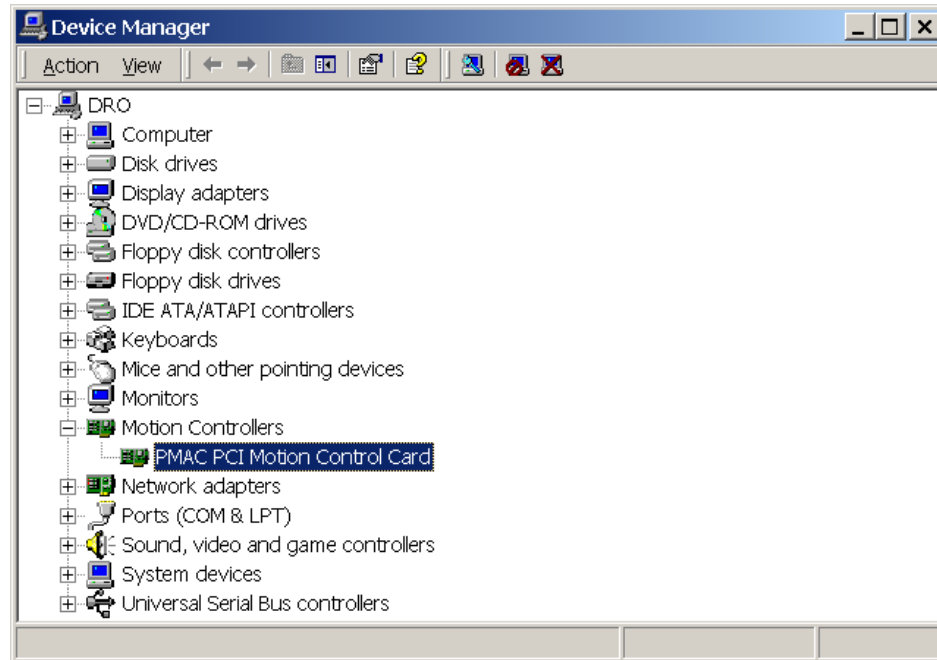

Figure 4
4. The device manager window will open up Figure 4. In the device manager window, find the motion controllers option and expand the tree. You would see "PMAC PCI Motion Controller Card" device. Double click on it.